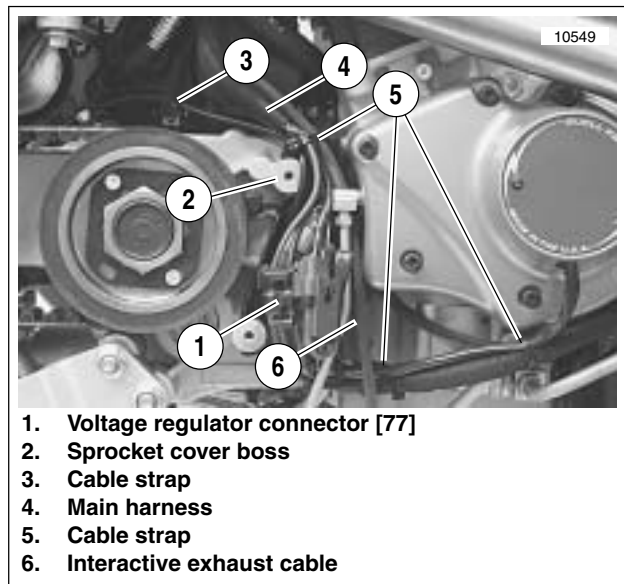

Figure 7-92. Assembled Wiring
See Figure 7-92. In next step, be sure main harness (4) is routed around sprocket cover boss (2).
9. See Figure 7-92. Connect voltage regulator connector [77] (1). Be sure connector latch faces inward and voltage regulator wires are positioned behind other wires in harness at sprocket cover boss (2).
10. Install cable strap (3) securing vehicle speed sensor wiring to starter connector [128] wiring.
11. Install cable strap (5) securing main harness wiring.
12. Install cable strap (6) securing stator, cam position sensor and oil pressure switch wiring.
13. Add cable strap (7) to secure cam position sensor and voltage regulator wiring.